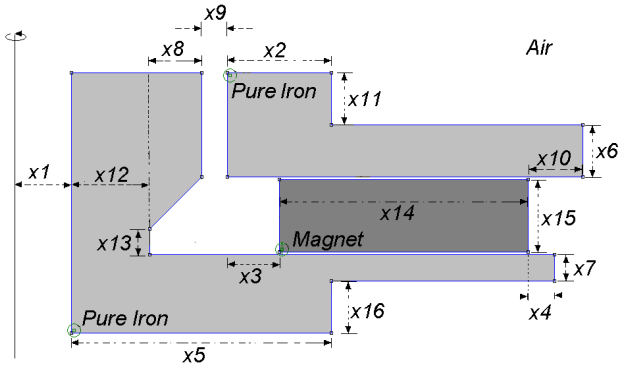

Fig. 1: Loudspeaker design model
**T**HE description of physical characteristics of the loudspeaker device (Figure 1) and its optimization are considered in this section. This model is inspired on the loudspeaker design example originally proposed by Infolytica Corporation [1]. The objective of this problem is the minimization of the total volume of material used, subject to the generation of a given magnetic flux density in the air gap defined by variable  $x_9$ . Mathematically, the problem is defined as: